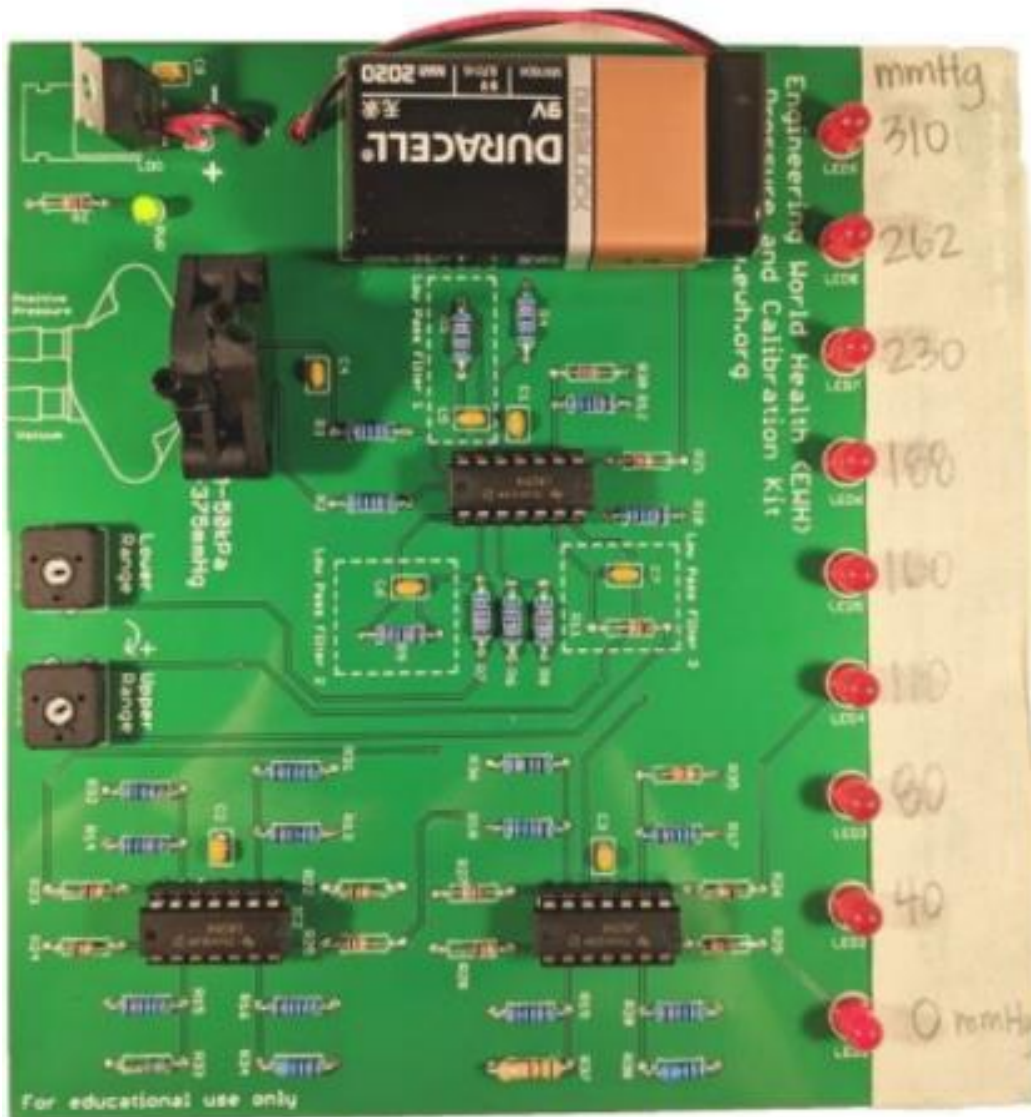
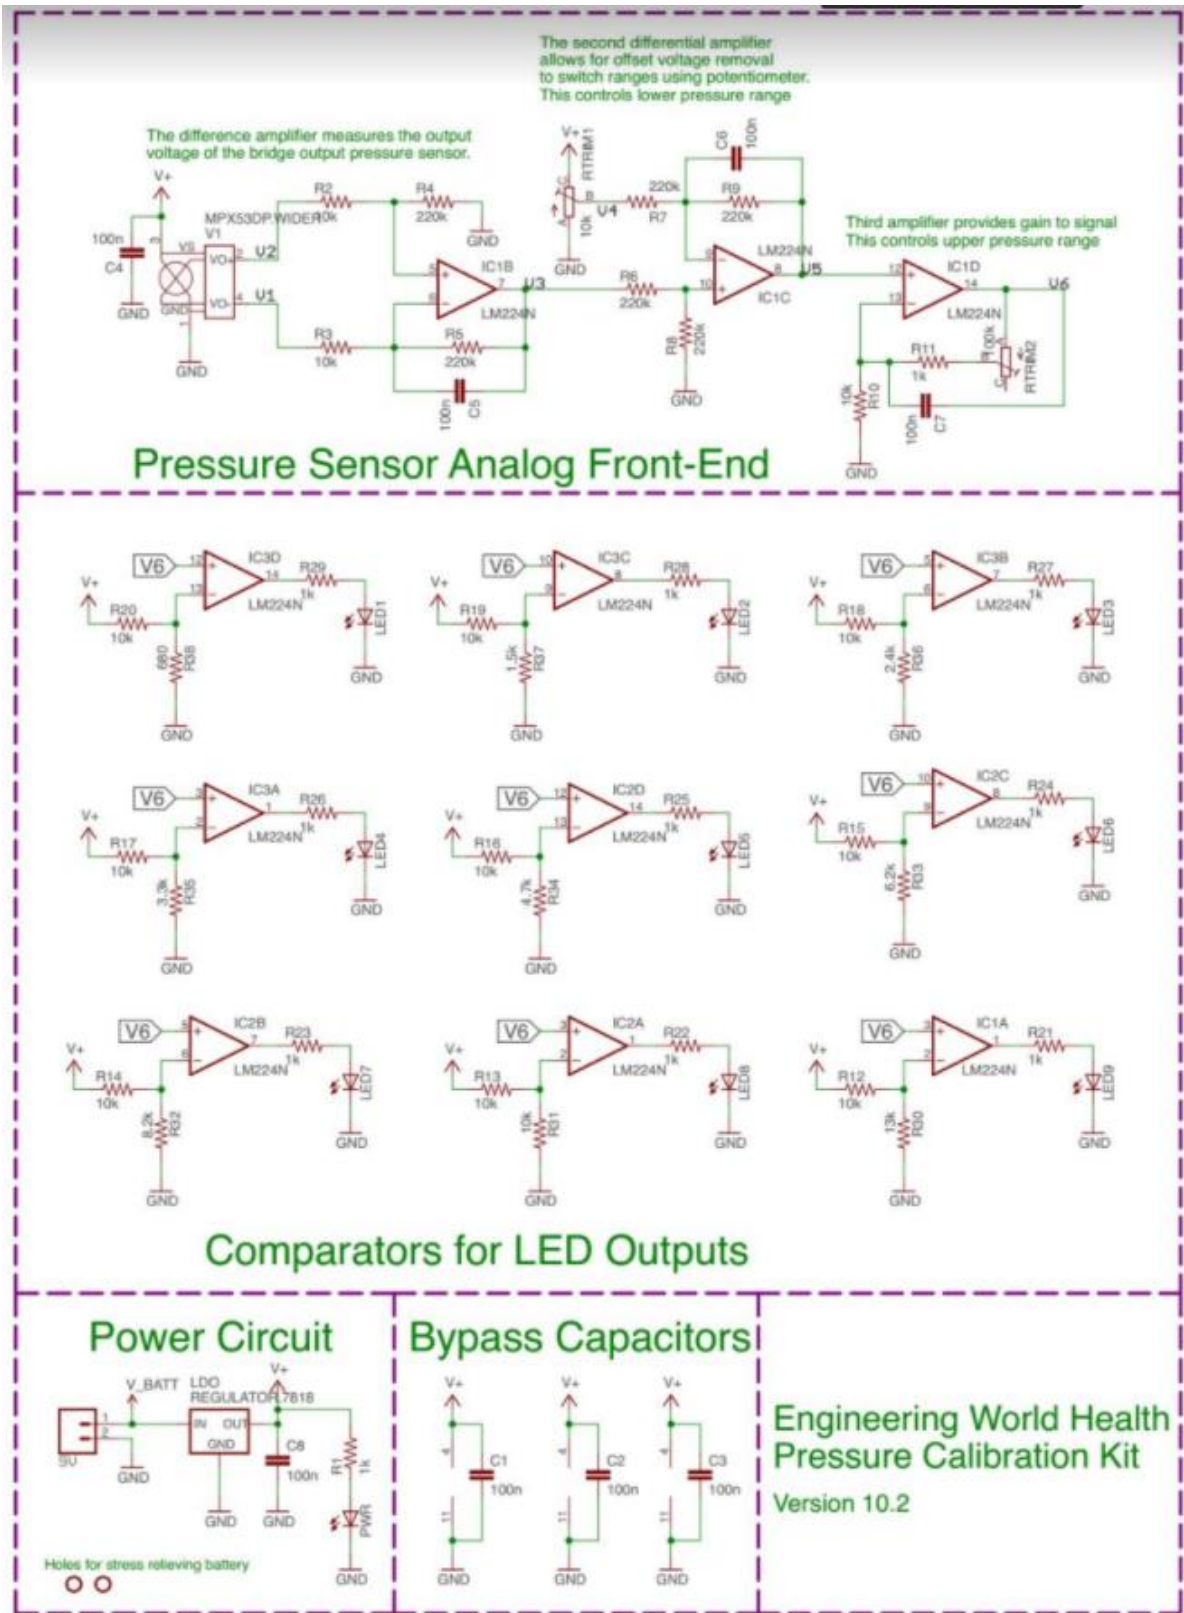

Figure 15: Completed Pressure Calibration circuit.
Figure 16: Circuit diagram of the completed Pressure Calibration circuit.
Congratulations!! The Pressure Calibration Kit has been completed. Compare the constructed circuit to Figure 15 to ensure that all of the components are in the correct space. Additionally, look to Figure 16 to see a complete circuit diagram of the circuit that was just completed.
- First, make sure all components are in the correct place (Figure 15) and electrically connected by gently trying to pull each one out of their sockets. If the components move, consider re-soldering the connection. Use a multimeter to confirm that voltage is present as expected across select points.
- If the red LEDs turn on but are out of order, consider adjusting the potentiometer so that they turn on more gradually. If they are still out of order, check that the comparator resistors were placed in the right positions. Use Figure 16 to trace which LEDs correspond to which resistors to check those first. Use a multimeter to make sure the correct resistance is measured across the resistor.